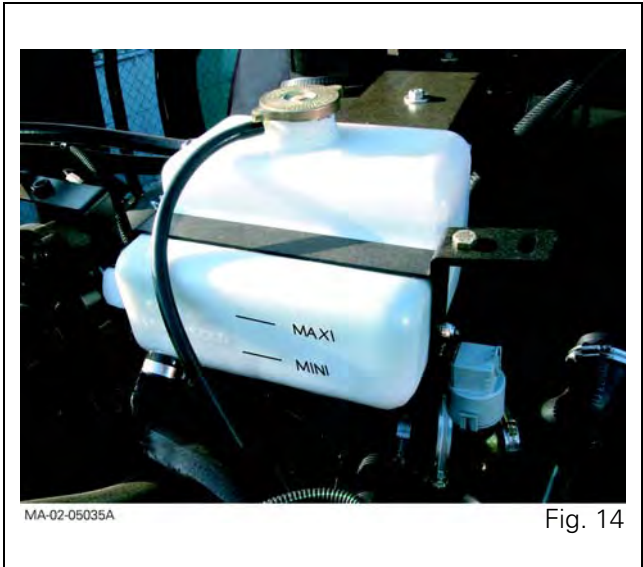

Fig. 14
- of coolant, to the maximum level marked on the expansion tank (Fig. 14).